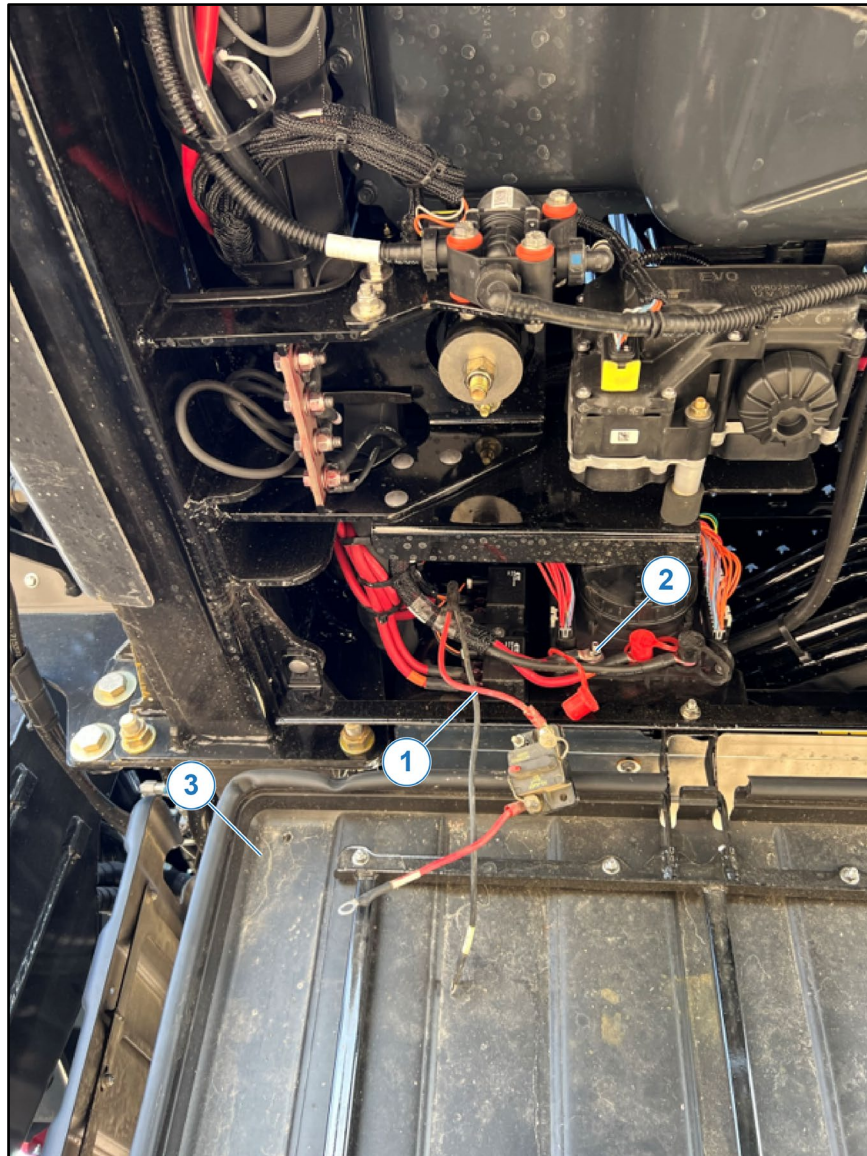

Figure 6 — Power Harness
6. *Figure 6:* Route power harness (1) to machine power terminals (2), accessible from the rear-most underside access panel (3), following existing machine harnesses. Secure harness with zip ties.